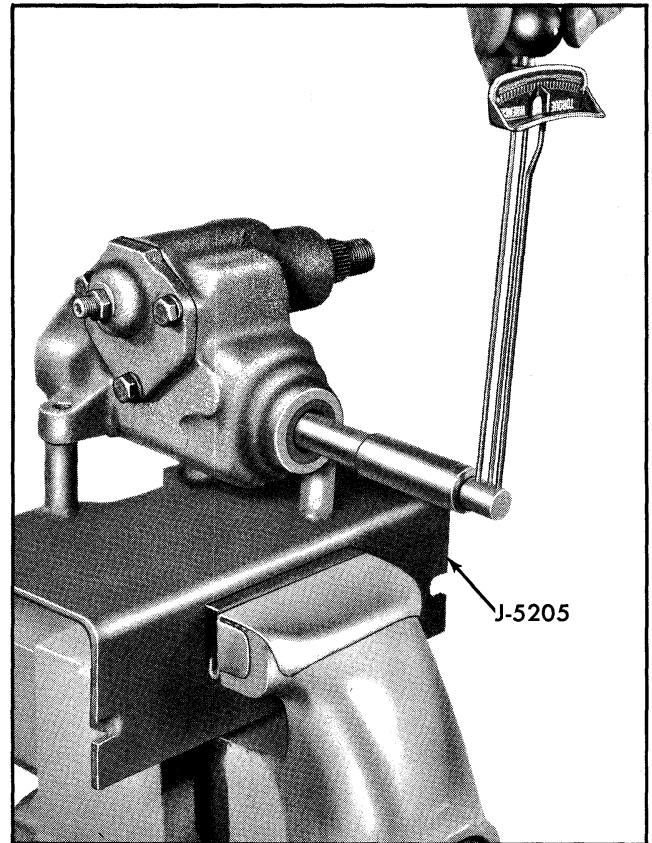

Fig. 9-29 Adjusting Worm Gear Through High Point
b. Tighten pitman shaft adjusting screw as necessary to obtain a reading of 4 to 9 lb. in. torque, in excess of thrust bearing preload, when the worm gear is turned through the high point (Fig. 9-29).